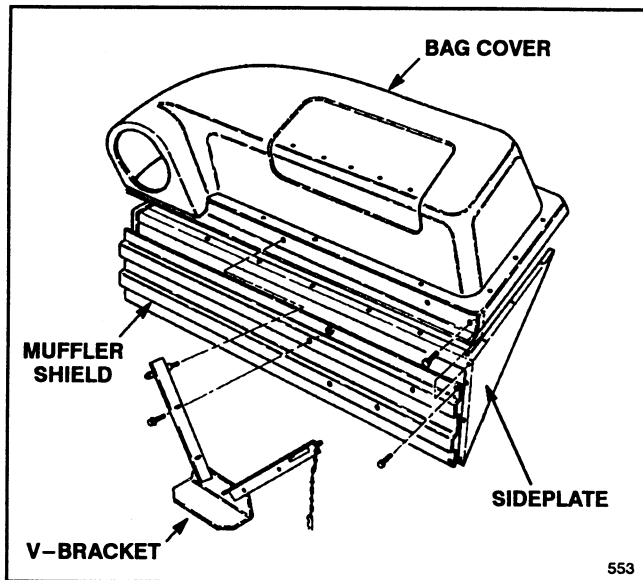

Figure 2
1. Secure sideplates and muffler shield to bag cover with (12) 1/4–20 x 5/8" lg. capscrews and locknuts as shown in Fig. 2. Capscrew heads to be positioned to the outside. When securing sideplates to bag cover, position a flatwasher (5 total) between plastic bag cover and capscrew head.
2. Mount V-bracket to outside of muffler shield with (2) flatwashers and (3/8–16) locknuts for mounting studs and (4) 5/16–18 x 5/8" lg. capscrews and locknuts as shown in Fig. 2.